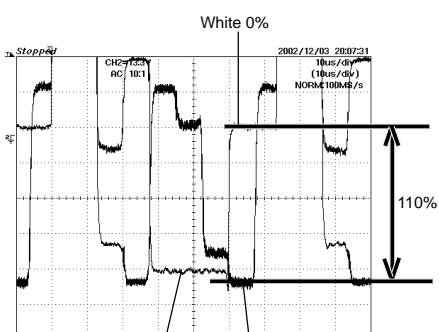

Fig. 2-3
7. Press the VOL. UP/DOWN button on the remote control until the red color level is adjusted to $110 \pm 10\%$ of the white level. **(Refer to Fig. 2-3)**